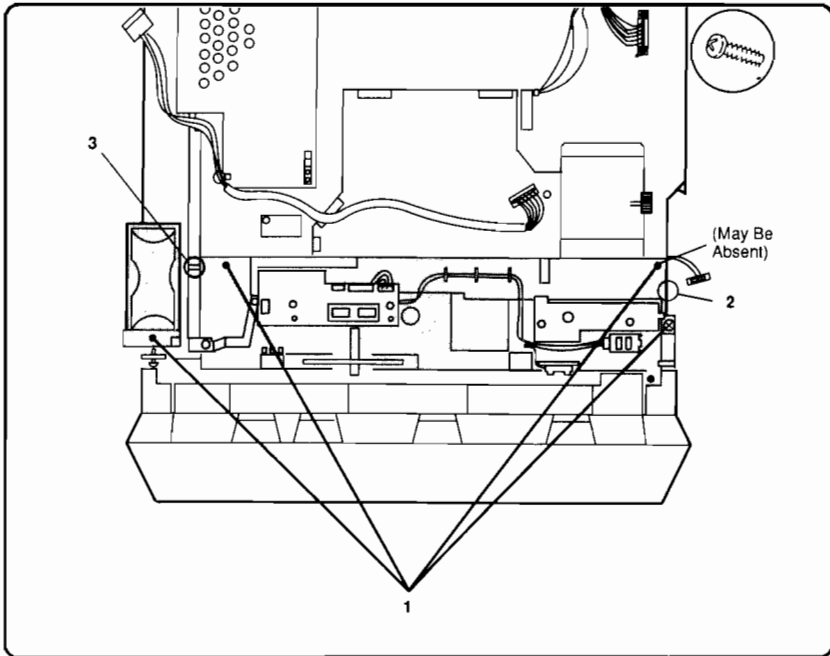

Figure 6-34. Upper Mainframe Assembly Removal
6. Unclip cables from the Upper Mainframe Assembly at specified locations (Figure 6-34, callouts 2 & 3).
7. Remove the screws (4) securing the Upper Mainframe Assembly to the Lower Mainframe Assembly (see Figure 6-34, callout 1).